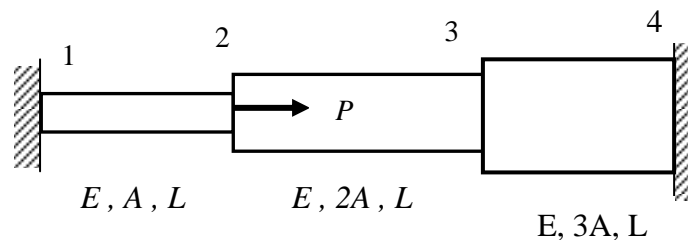

Figure 5(a)
4. (a) Write down the element stiffness matrices and global matrix for the three bars assembly which is loaded with force P , and constrained at the two ends in terms of E , A and L as shown in Figure 5(a).